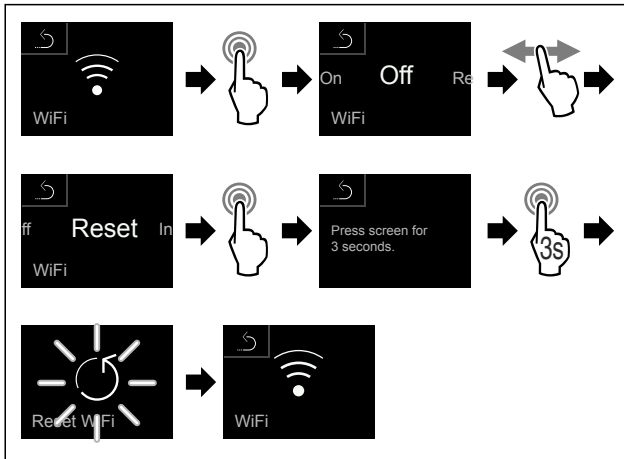

Fig. 98
- ▶ Complete the steps (see Fig. 98) .